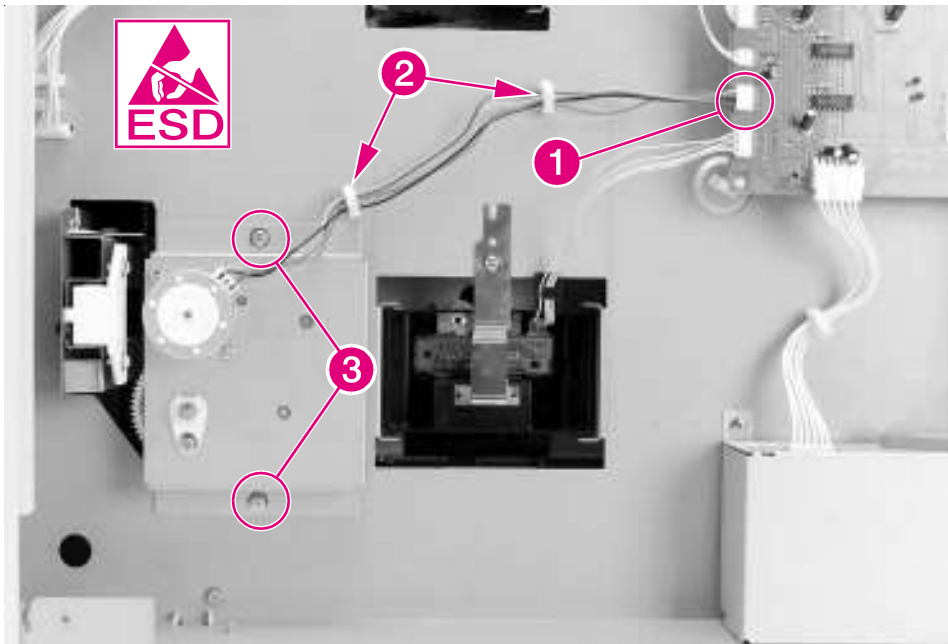

Figure 6-68 2000-sheet Input Tray Main Drive Assembly
- 2 Locate the cable that runs from the Main Drive Assembly on the 2000-sheet Input Tray to the unit's Controller PCA. Disconnect the cable from the J206 connector on the Controller PCA (figure 6-68, callout 1).
- 3 Release the cable from the 2 cable clips that hold the cable to the chassis (figure 6-68, callout 2).
- 4 Remove the 2 screws that connect the Main Drive Assembly to the chassis: 1 screw on top of the Main Drive Assembly and 1 screw on the bottom (figure 6-68, callout 3).
- 1 Reroute the cable through the cable clips (figure 6-68, callout 2) and reconnect the cable to the J206 connector on the Controller PCA (figure 6-68, callout 1).